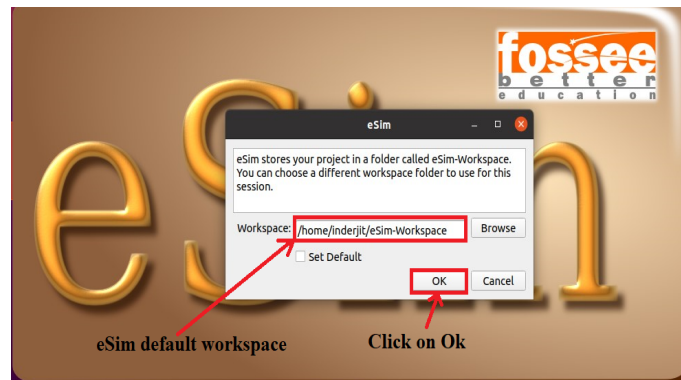

Figure 10.7: eSim workspace
1. Open eSim and select the default eSim workspace by clicking on **OK** as shown in Fig. 10.7. Its format is /home/<username>/eSim-Workspace. User-name can be user specific but be careful of the naming conventions(space is not allowed). If the user wants to select they can chose the same by using the **Browse** button in the dialog box.